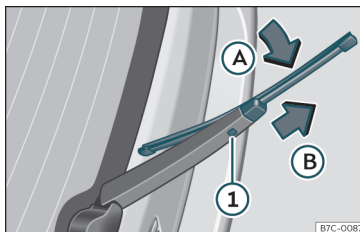

Fig. 69 Changing the rear wiper blade
- Turn the blade slightly >>> Fig. 69 (arrow A).
- Hold down the release button ① while gently pulling the blade in the direction of arrow B.